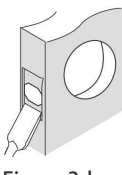

Figure 3d
- Chisel 5/32"(4mm) deep or until latch face is flush with door edge (Figure 3d).